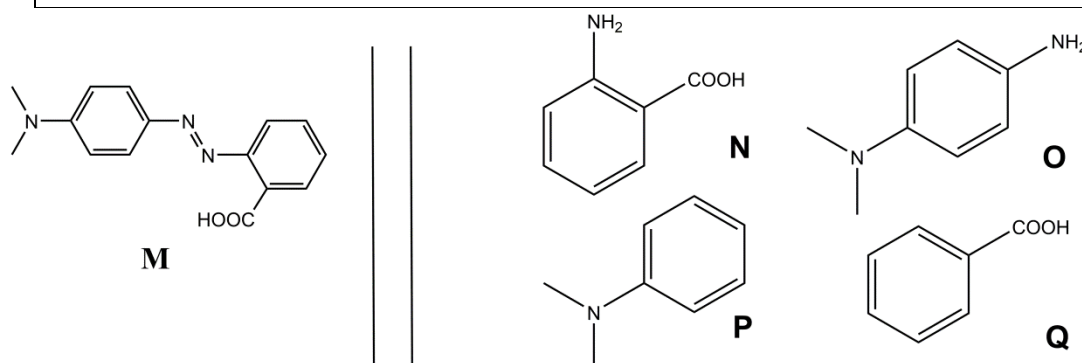

Fig. 1 – Possible reactants for the synthesis of **M**.
2. **M** can be synthesized in two steps from simple reactants (Fig. 1). **Choose** among the suggested reactants (**N** to **Q**) the ones that can provide **M** with very high regioselectivity. Sodium nitrite ($NaNO_2$) in cold aqueous hydrochloric acid is used as reagent for the first step of the synthesis.